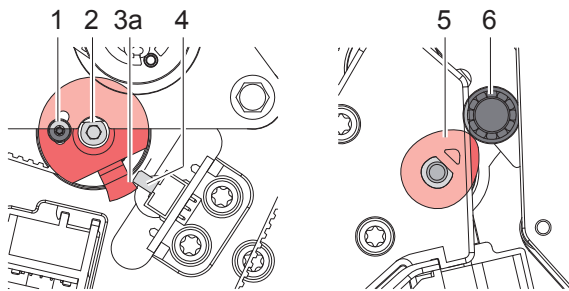
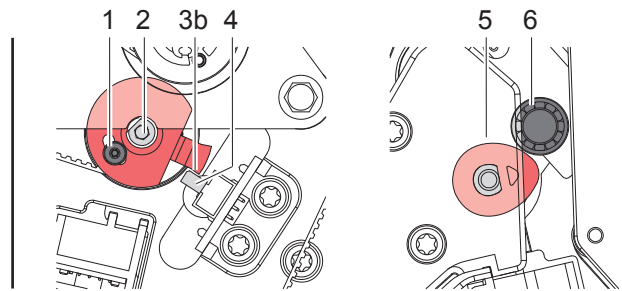

Fig. 28 Eccentric in saver mode
Fig. 29 Eccentric in print mode
4. Loosen the screws (1) at the clock wheel.
5. Turn axle (2) in such a way that the eccentrics (5) lift the printhead via the ball bearings (6) at most ► Fig. 28 .
6. Adjust a minimum gap between flange (3a) and the edge of the sensor housing (4) by turning the clock wheel ► Fig. 28.
7. Tighten screw (1).
8. Turn axle (2) in such a way that there is a minimum gap between flange (3b) and the other edge of the sensor housing ► Fig. 29.